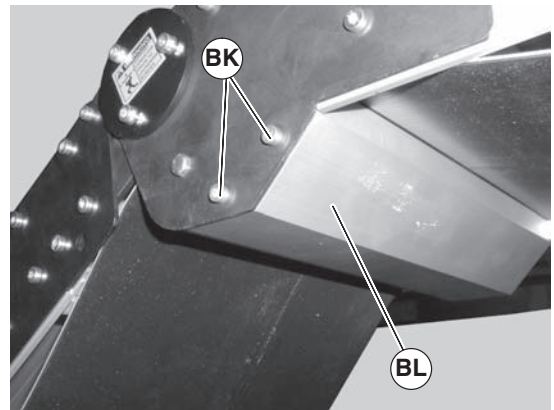

Figure 78
- Remove screws (Figure 78, item BK) on both sides of knuckle and remove guard (BL).